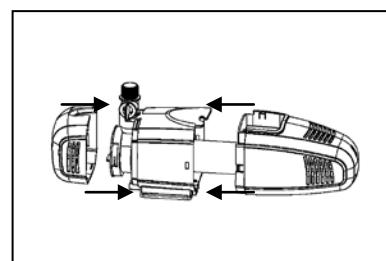

Fig. 16
10. Reassemble all of the components. Fig. 16